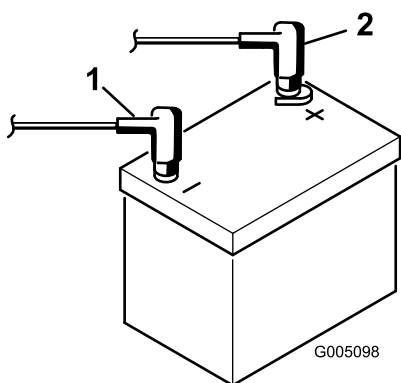

Figure 7
9. Install the positive cable (red) to the positive (+) terminal and then the negative cable (black) to the negative (–) terminal of the battery and secure them with the bolts and nuts (Figure 7). Slide the rubber boot over the positive terminal to prevent a possible short from occurring.